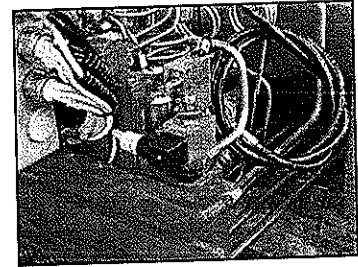
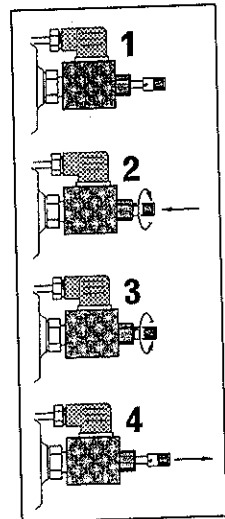

fig. 22
fig. 22a
On the distributor it has been installed an electro-valve with a manual locking function (fig. 22) which allows to reactivate all the crane functions in case of absence of the electric power. Only in these conditions it is permitted to remove the lead seal which protects the device. Push the button and turn it into the clockwise sense (fig. 22a pos. 1-2); the button stays in stable and closed position.
- (!) When the electric power is reestablished, remember to put the button in its original position, turning it into the anti-clockwise sense. (fig. 22a pos. 3-4)
Push the button and turn it into the clockwise sense (fig. 22a pos. 1-2); the button stays in stable and closed position.